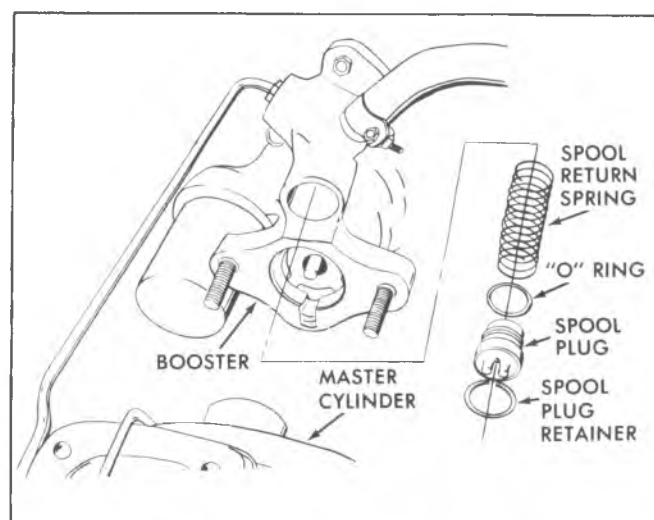

Fig. 5-9E-Spool Valve Plug Removal
17. Push spool valve plug in and use a small screwdriver to remove retaining ring (Fig. 5-9E).
2. Install "O" ring and spool valve plug (fig. 5-9E).